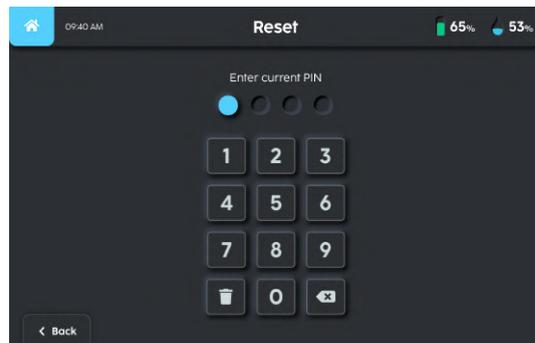
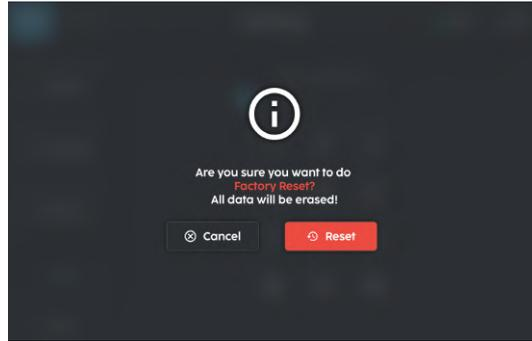

FIGURE 7-13
FIGURE 7-14
3. Once selected, enter the account PIN and reset (**Fig. 7-13**) (**Fig.7-14**).